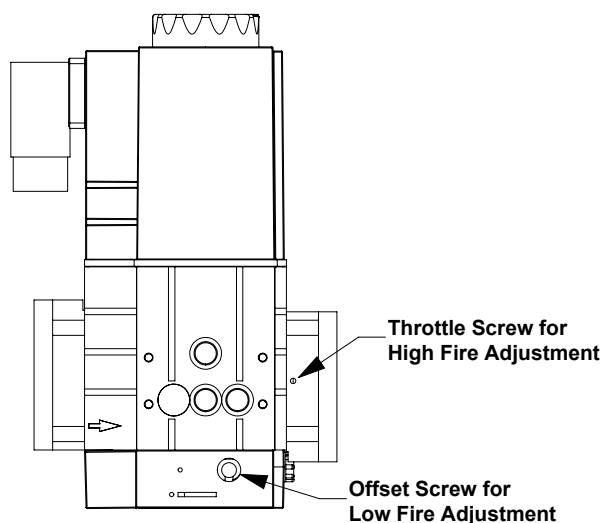

Figure 24: Gas Valve Air/Fuel Adjustment
- d. If high fire O_2 is too high (CO_2 is too low), decrease O_2 (increase CO_2) by turning the throttle screw towards the "Plus (+)" sign in 1/4 turn increments and checking the O_2 (or CO_2) after each adjustment. Refer to Figure 24 for location of throttle screw. Verify CO air free is less than 200 ppm.